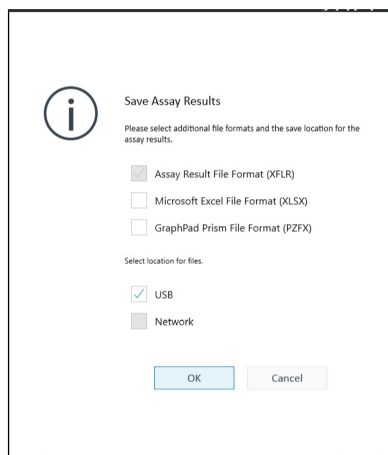

Figure 12. Save results.
- 8 After the assay is complete, the data is automatically saved to a USB flash drive (if inserted), the local drive, or the networked drive (if configured). A message appears indicating the location of the save assay result File (*.xflr). See **Figure 12**.
- 9 After the assay is complete, data is automatically saved on the assay result file format to the location specified at the start of your assay (USB flash drive, network location, or locally). It is mandatory to save result data in the assay result file format after completing the assay and will always be checked ON. You can also save result data as an Excel file (.xlsx) and GraphPad Prism file (.pzfx) directly from the XF HS Mini Analyzer as well. Check the box next to the desired file formats and click **OK** (**Figure 12**).